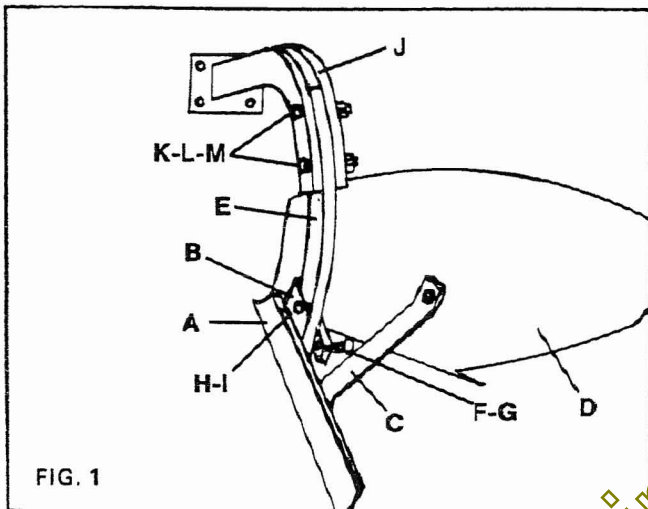

FIG. 1
FIG. 1. Secure landside (A) to frog (B), as shown, with two $\frac{3}{8}$ " x 1" plow bolts and two $\frac{3}{8}$ " hex nuts. FINGER TIGHTEN. Next, mount brace (C) between moldboard (D) and landside (A). Secure with $\frac{3}{8}$ " x 1" plow bolts and $\frac{3}{8}$ " hex nuts. TIGHTEN ALL BOLTS SECURELY. Assemble standard assembly (E) to plow bottom (with $\frac{5}{8}$ " x $2\frac{1}{2}$ " land adjusting bolt (F) and square nut (G) in place) and secure with $\frac{1}{2}$ " x $1\frac{1}{2}$ " carriage bolt (H) and hex nut (I) through top hole and $\frac{1}{2}$ " x 2" plow bolt and hex nut through remaining hole in landside, frog, and standard. TIGHTEN SECURELY. Position beam assembly (J) over standard, as shown, and secure with two $\frac{1}{2}$ " x $2\frac{1}{2}$ " hex bolts (K), lock washers (L), and hex nuts (M). TIGHTEN SECURELY.